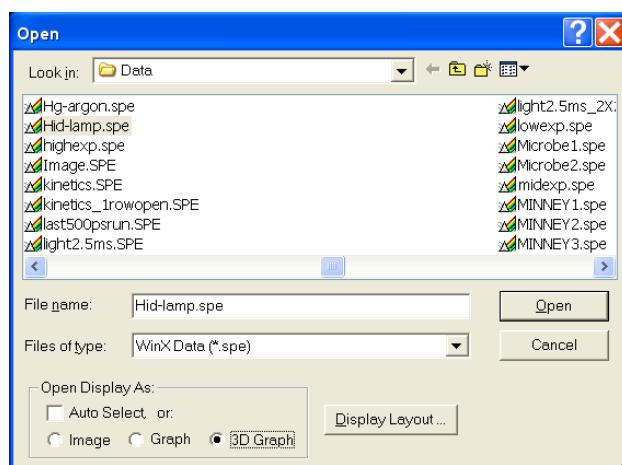

Figure 73. Open dialog
- From the **File** menu select **Open**. The **Open** dialog (Figure 73) will appear, allowing you to select the image to be opened. The Look-In box provides a browser function so that the directory where the images are located can be easily accessed. By default the data directory is a subdirectory of the WinSpec program directory. Files of the specified type (the WinSpec/32 data type is *.spe) in the current directory and any subdirectories are listed in the box below the directory name.